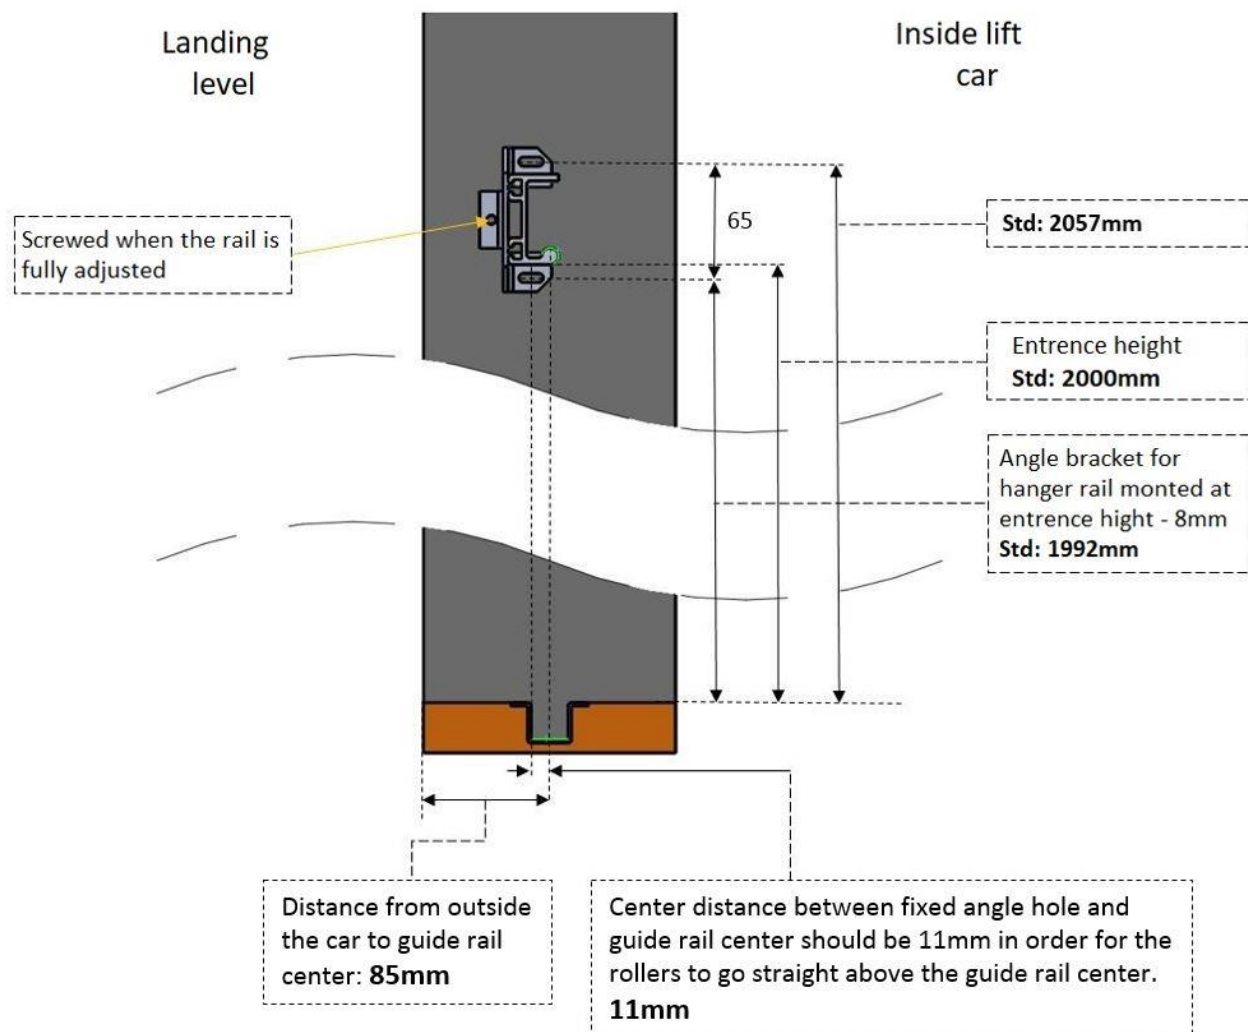

Figure 3 – Dimensions for mounting the hanger rail brackets
3.2. The bracket for the hanger rail will be mounted with supplied screw (**bag 1**). – See measures in **figure 3**, on page 2.